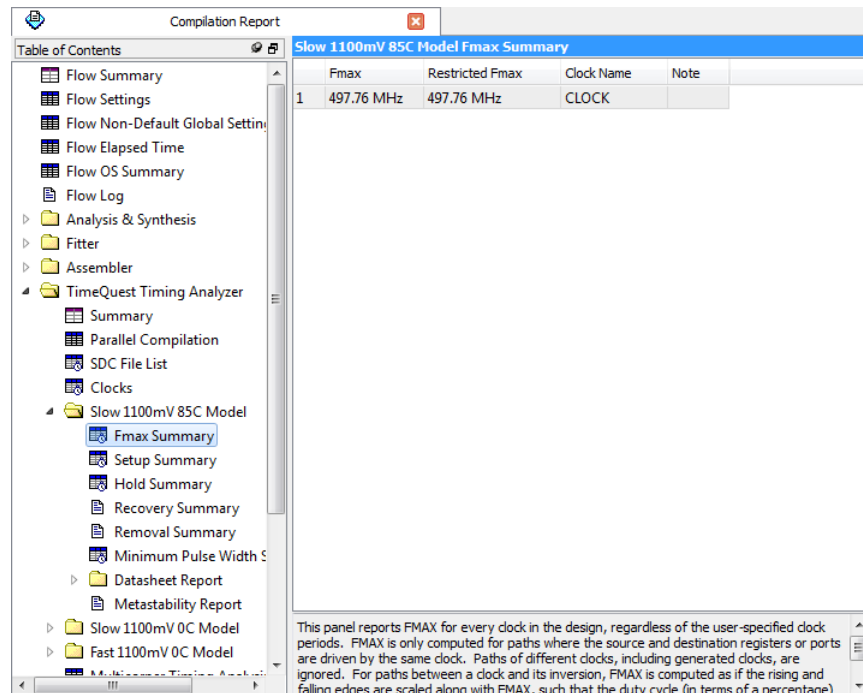

Figure 37: New timing results.
- The new timing results are shown in Figure 37. The new f_{max} is 497.76 MHz, which meets the specified requirement.